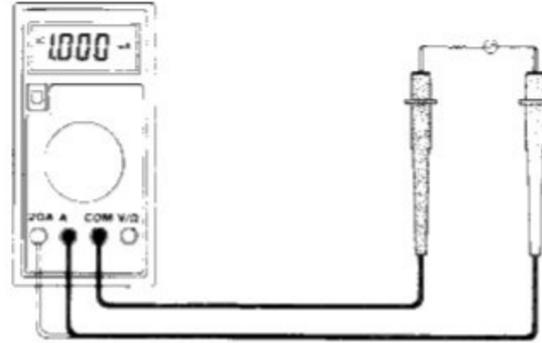

Fig. 5-5 AC Current Measurement
2. Turn the Rotary switch to the AC A range to be used and connect the test lead in series with the load under measurement. See Figure 5-5.